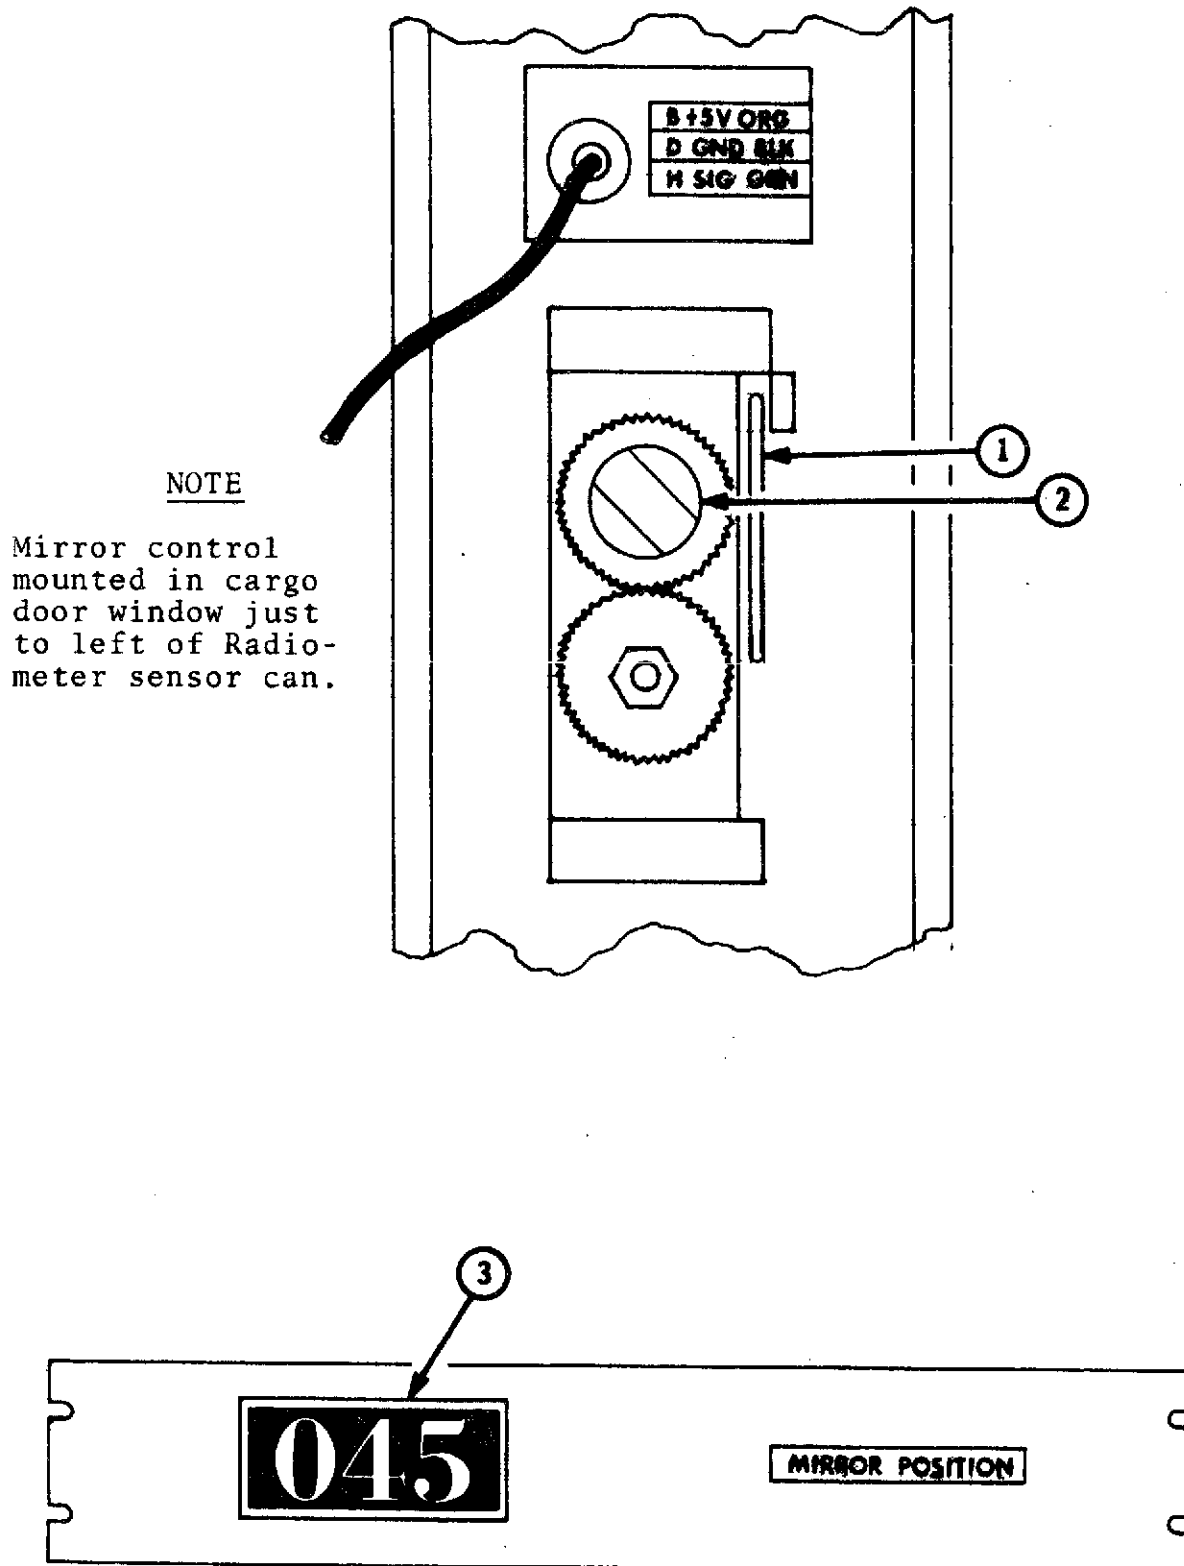

Figure 2-9. Radiometer Mirror Control and Display
2.10 RADIOMETER MIRROR CONTROL AND DISPLAY (FIGURE 2-9)